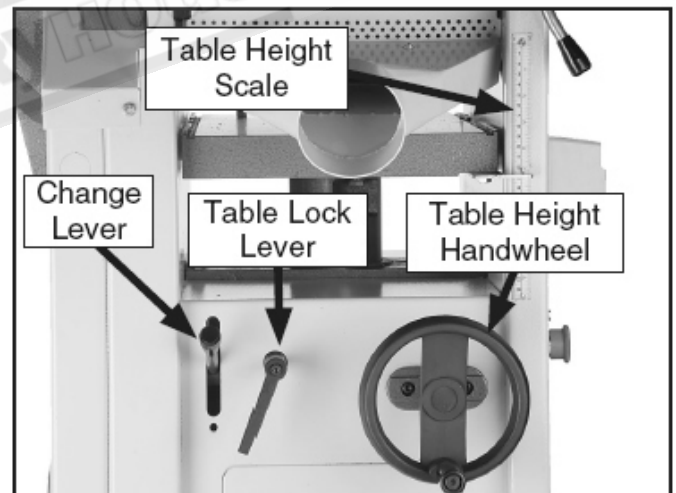

Figure 19. Planer table control locations. .
Table Height Handwheel: To move the planer table, rotate the table height handwheel (**Figure 19**).
9. Flip the change lever (**Figure 19**) up.